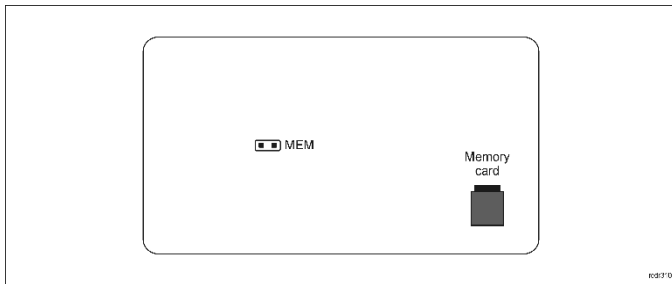

Fig. 3 Service contact and memory card.
In RACS 5 v2 system the reader can be installed at site without previous configuration. According to AN006 application note, its address and other settings can be configured from VISO v2 management software and during such configuration the access to its service contacts (fig. 3) is not required.
2. Remove jumper from MEM contacts (fig. 3) if it is placed there.
2. Press and remove memory card from socket (fig. 3).
2. Place jumper on MEM contacts (fig. 3).